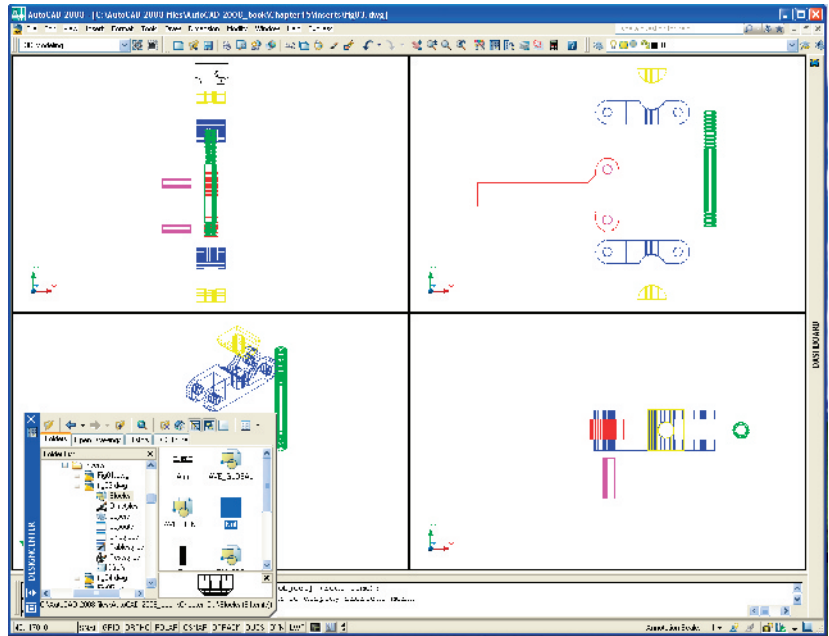

Fig. 15.3 First example – inserting 3D blocks
6. *Drag and drop* the blocks one by one into one of the viewports on screen. Fig. 15.3 shows the **Nut** block ready to be *dragged* into position in the **Right** viewport. As the blocks are *dropped* on screen, they will need moving into their correct positions in relation to other parts of the assembly by using the **Move** tool from the **2D Draw** control panel in suitable viewports.